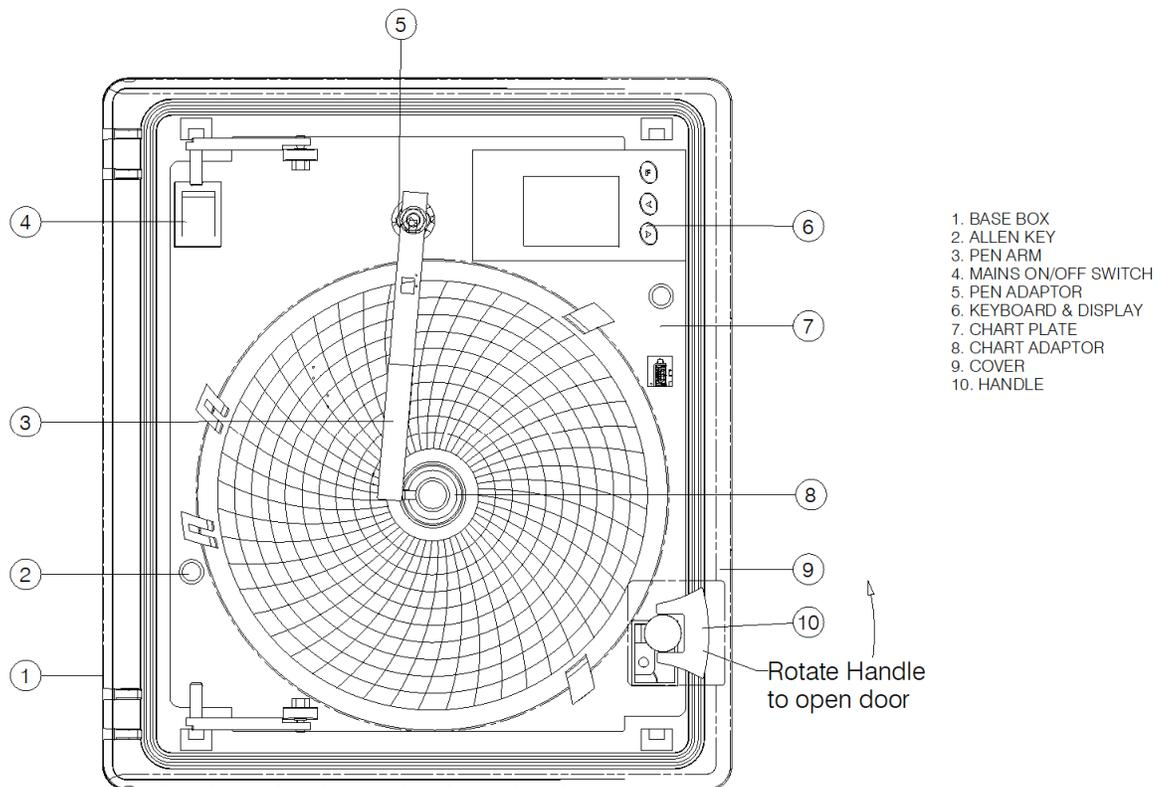

Figure 1 Front View of Recorder
- Open the door of the recorder by rotating the knob Figure 1.